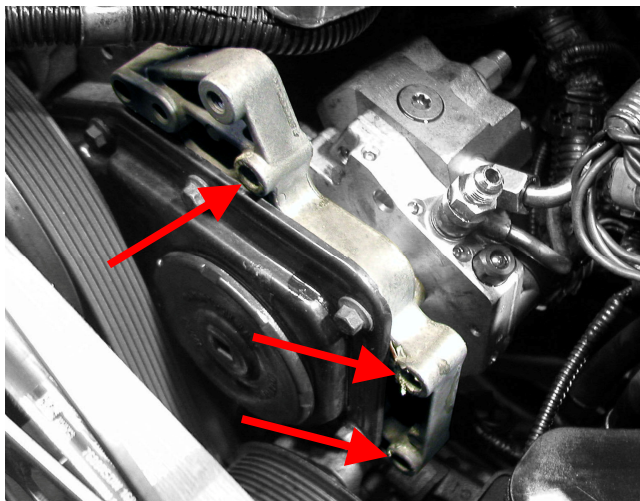

Figure 5 - Timing Cover Bolt Locations
10. Remove the driver side upper fan shroud bracket by removing the nut on the shroud and the two bolts on the front of the head. Loosely install the pump support bracket (#5, Figure 1) into the front side of the timing bracket (Figure 5) using the 3/8" hardware included. Slide the fan shroud over the stud on the front of the bracket and install the factory 8mm nut hand tight. Leaving this piece loose will allow adjustment when installing the pump bracket.
A4. Remove the banjo bolt from the return line on the factory fuel filter housing (Figure 5). Replace this fitting with a 12mm banjo to JIC-6 fitting using the copper washers provided.